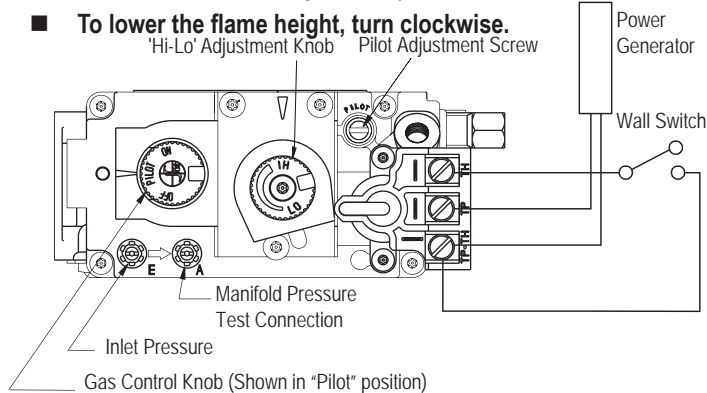

Figure 26. 'Hi-Lo' Adjustment on the SIT Nova 820 gas valve,
The H*42DF*ST is equipped with an adjustable burner, allowing you to raise or lower the flames. To adjust the flames, locate the black knob marked 'Hi-Lo', in the centre of the gas control valve (See Figure 26).
1. Locate Pilot Adjustment Screw. (See figure 26 or 27.)